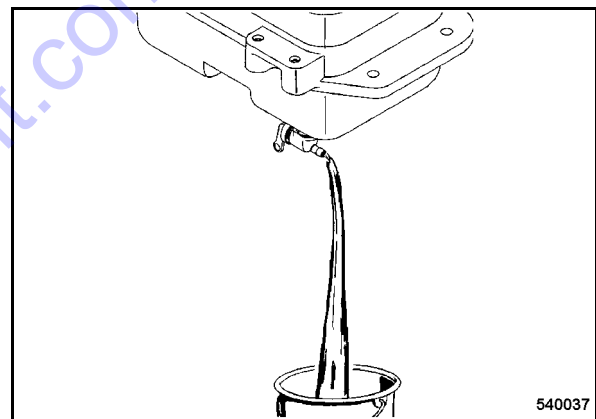

Fig. 53
- Disconnect fuel hose (Fig. 53) from fuel cock. Open the fuel cock, drain off fuel.